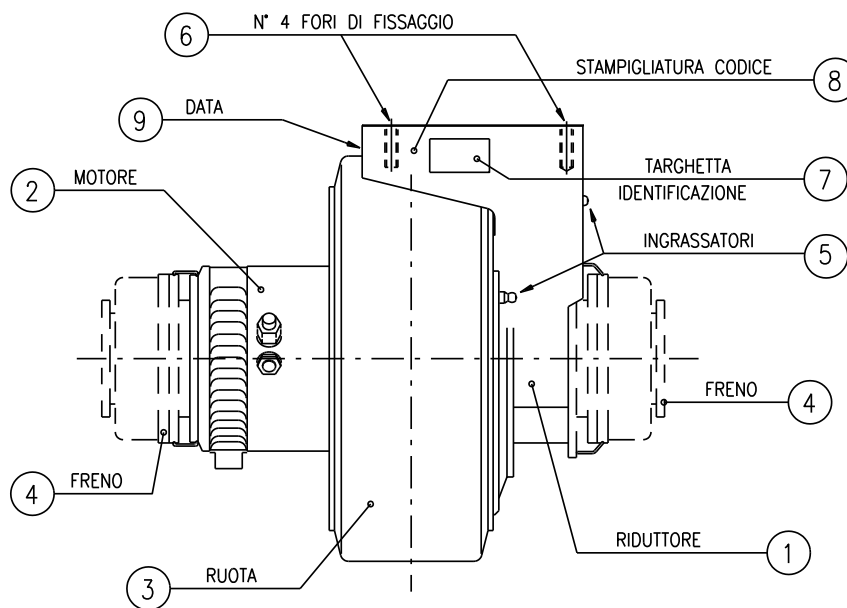

Fig. 1
The unit (fig.1) consists of a two-stage reducer with parallel axes (pos. 1), the motor (pos. 2) and the wheel (pos. 3) coaxial with each other.